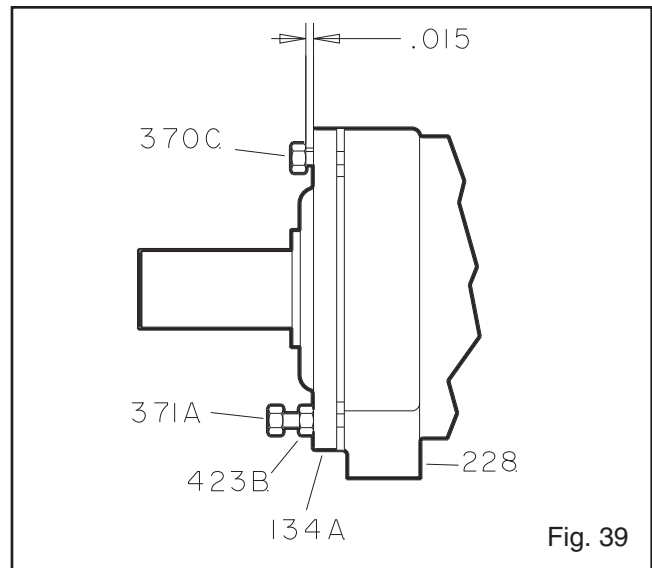

Fig. 39
2. Loosen jam nuts (423) on jack bolts (371A) and back bolts out about two turns (Fig. 39).
3. Tighten locking bolts (370C) evenly, drawing bearing housing (134A) towards frame (228) until impeller contacts the casing. Turn shaft to ensure contact is made.
4. Loosen jam nuts (423) on jack bolts and turn bolts in several turns until impeller contacts the stuffing box cover or seal chamber. Turn shaft to ensure contact is made.
5. Measure the gap between the bearing housing and the bearing frame with feeler gauges. Reduce this measurement by .060" and place the resultant feeler gauges between the bearing housing and the bearing frame as shown in Fig. 39.
7. Turn in the jacking bolts (370D) and tighten the jam nuts (423) evenly.